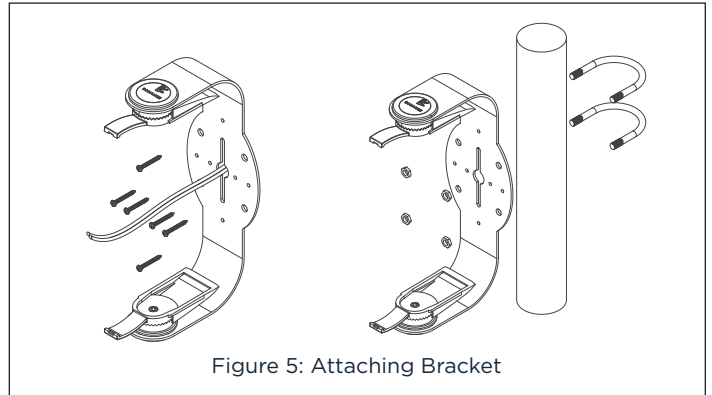

Figure 5: Attaching Bracket
4. If the installation requires that the speakers be mounted on poles you can attach the bracket to poles using 2.5” U-bolts (not included, see figure 5).